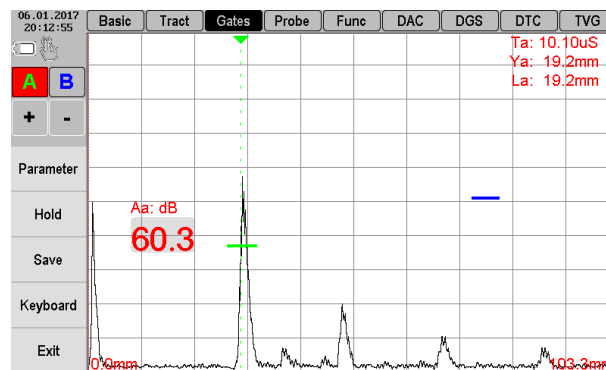

Figure 2.42 – Turning on the parameter displaying: signal amplitude in A-gate
- Turn on parameter of signal amplitude in A-gate – Aa (Figure 2.42).